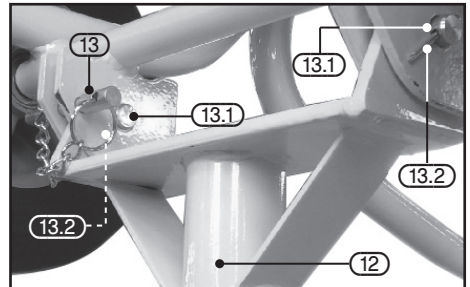

FIG.7
– FIGS.7 – 8
- Remove the pivot bracket (12) from the stand and offer it up to the axle bracket on the cement mixer.
- The safety pin (13) is inserted through the hole in the bracket to prevent the drum falling forward.